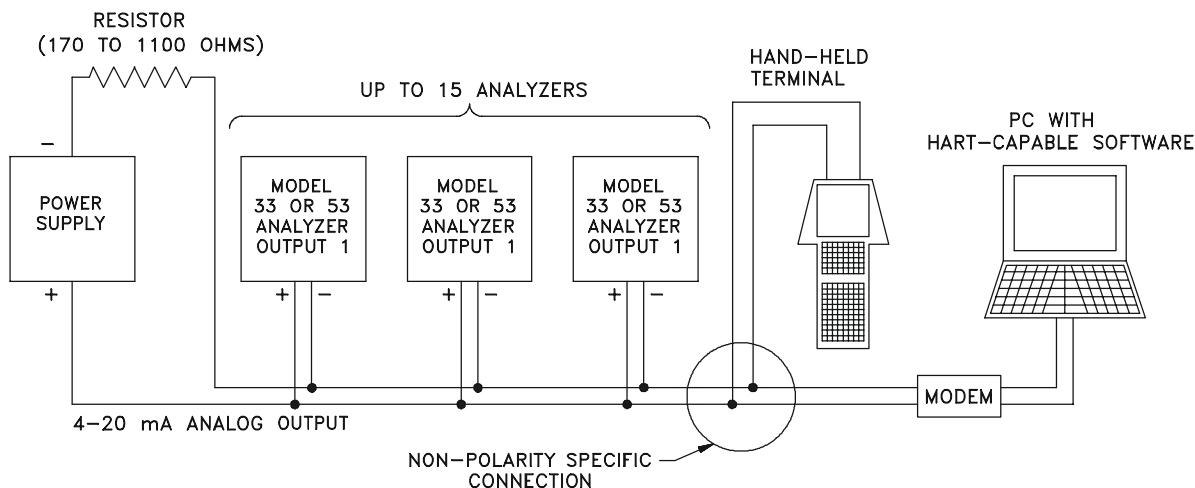

FIGURE 3-4 HART MULTI-DROP Wiring Arrangement (for multiple analyzer network)
2. Refer to Figure 3-4 and connect the 4-20 mA analog Output 1 signal of each analyzer in parallel on one cable, matching polarity as shown.